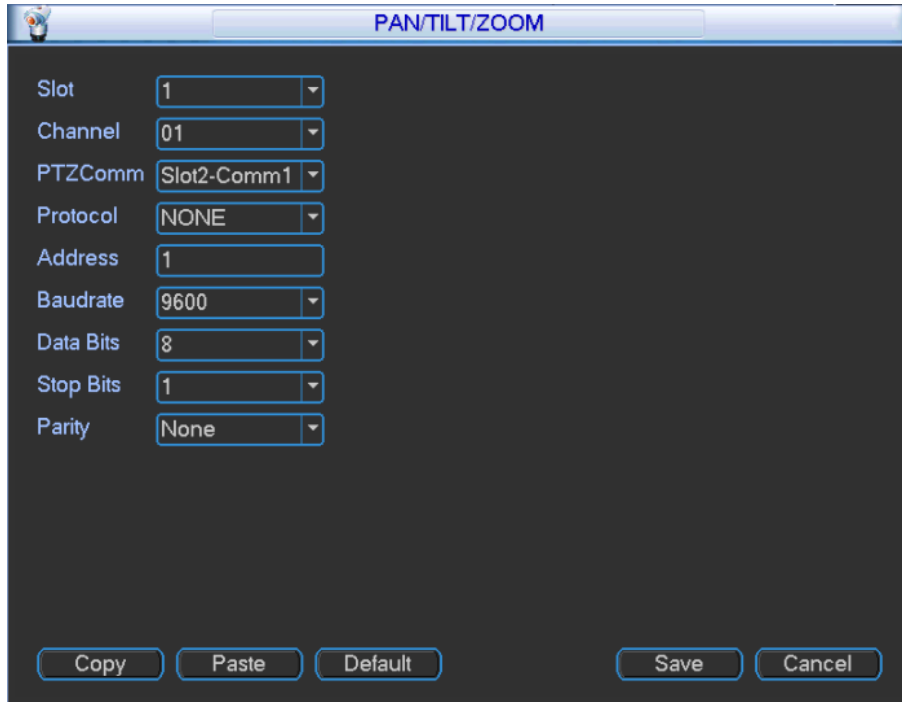

Figure 3-59
Step 1 In main menu, select "Setup > Pan/Tilt/Zoom". The system displays "Pan/Tilt/Zoom" interface, as shown in Figure 3-59.